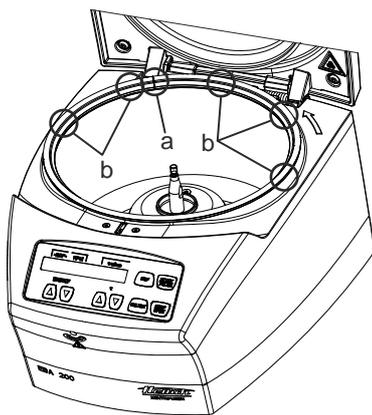
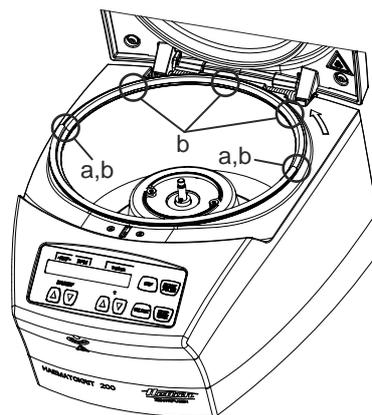

Fig. 7
Fig. 8
The bonded seam of the sealing ring (indicated by the two venting holes) must be at the rear of the upper housing part left of the middle. Exact position of the bonded seam is shown in Fig. 7, a. The two venting holes in the sealing ring must face outwards.
The part of the sealing ring with the higher profile must be located in the front of the upper housing part and the higher profile has to facing up. Exact position of the sealing ring is shown in Fig. 8, a.
- Glue the sealing ring at five positions on the upper housing part. Gluing points shown in Fig. 7, b and Fig. 8, b.